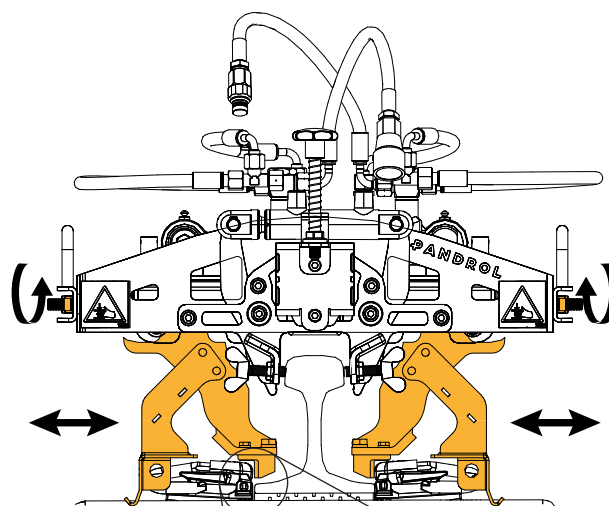

Fig 44.
1. On a sleeper with clips, carefully operate to perform declipping. Ensure that the arm does not touch the isolator Fig 44.